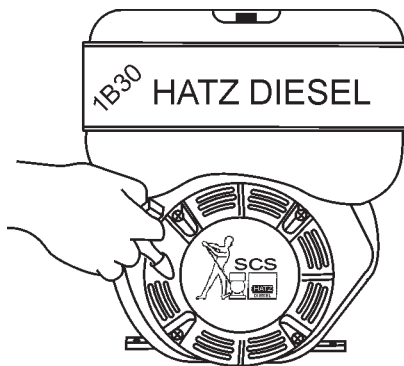

Figure 17. Recoil Starter Grip
- Pull the recoil starter grip (Figure 17) 2 or 3 times. **DO NOT** start the engine.